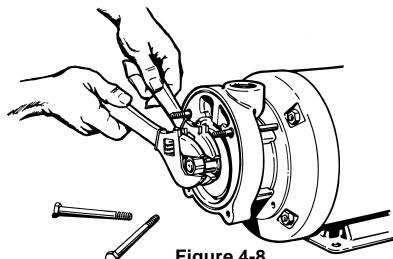

Figure 4-8
5. Remove the impeller drive hub. Refer to Figure 4-8. Two (2) adjustable wrenches are used to remove the impeller drive hub (#14).